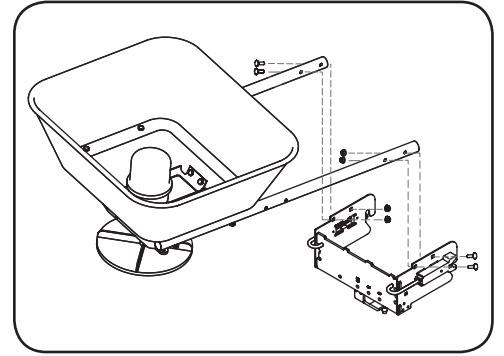

Figure 1-8
- Use two carriage screws and locknuts per side to attach the indented ends of the single frame tubes, to the top of the EZ Connect Hitch Bracket. See Figure 1-8.